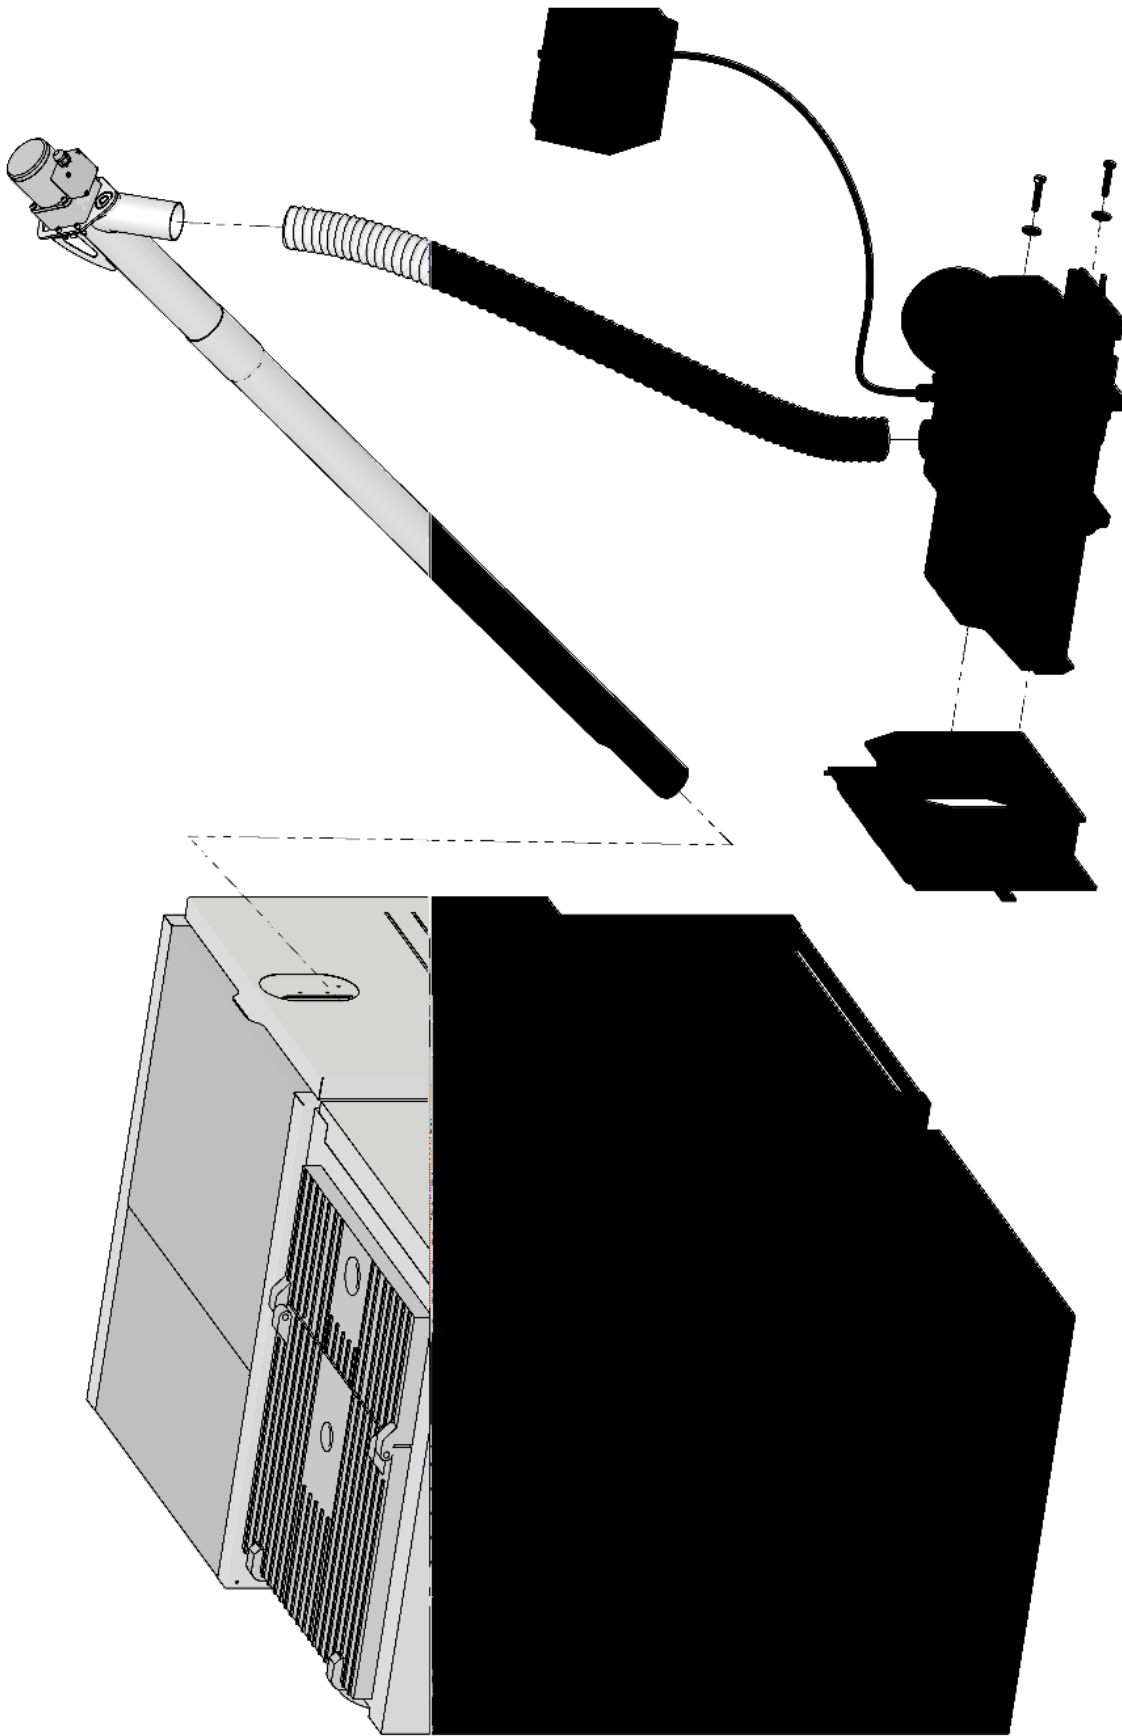

Fig. 5 EVO Set Mounting Diagram
1. Measure the boiler doors and determine the optimum burner attachment point and the need for a remote-mount flange. The burner must be installed in the boiler in accordance with the dimensions and location described in the installation lay-out (Fig. 5).